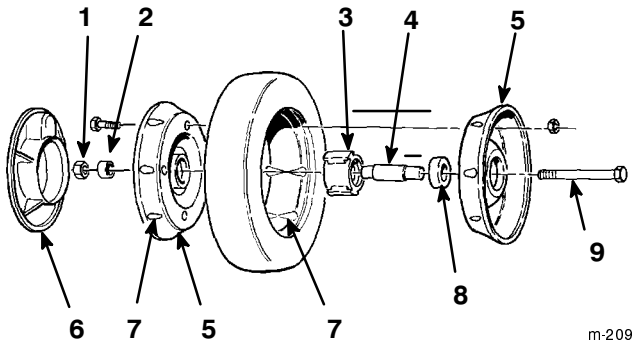

Figure 36
- Remove the cap screw, the wheel spacer, and the locknut mounting the wheel to the pivot arm (Fig. 36).
- Separate the wheel halves from the tire by removing four cap screws and four locknuts (Fig. 36).
Note: If you remove the bearings from the bearing/hub assembly, remove them by pressing on the bearing spacer (Fig. 36).
- Position the tire onto one wheel half, aligning the lugs on each (Fig. 36).
- Place the bearing/hub assembly into the center hole of the wheel half. Ensure that the legs of the hub are positioned over the flange of the hole (Fig. 36).
- Place the other wheel half onto the bearing/hub assembly, aligning the wheel and the tire lugs and the mounting holes (Fig. 36).
- Using two 1/4–20 x 1.50 in. (6 x 38 mm) fully threaded screws or bolts and non-locking nuts, loosely secure the wheel halves together. Mount the screws or bolts in the opposing holes (Fig. 36).
- Check the alignment of all parts and tighten the screws, alternating from side to side for a uniform fit, until the wheel halves are drawn together (Fig. 36).
- Install the two cap screws and two locknuts previously removed in the remaining holes in the wheel halves and tighten. Remove the two long screws or bolts and replace them with two cap screws and two locknuts (Fig. 36).
- Install the wheel to the pivot arm with the cap screws, a spacer, and a locknut. Ensure that the spacer is positioned between the wheel hub and the pivot arm (Fig. 36).